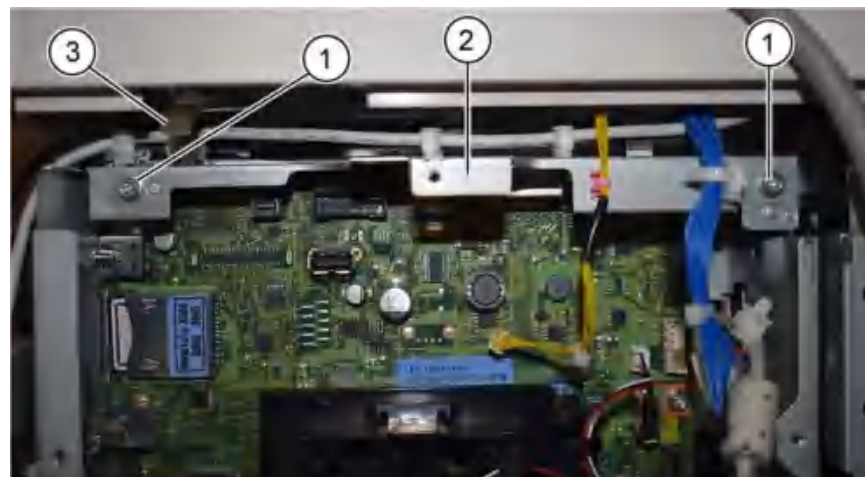

Figure 9 ESS upper panel removal
10. Remove the ESS upper panel, **Figure 9**.
- Remove both screws (1).
- Remove the ESS upper panel (2).